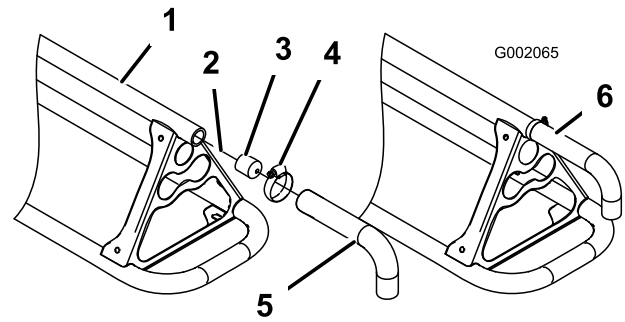

Figure 31
5. Install the boom cap onto the end of the top bar of the boom frame (Figure 31).
6. Lubricate the inside of the extension hose and slide it over the cap and boom hose and onto the boom pipe (Figure 31).
7. Secure the extension hose onto the boom pipe with a large hose clamp (Figure 31).
4. Pull the boom hose through the punched hole boom cap until it **extends 2 to 3 inches past the cap** (Figure 31).